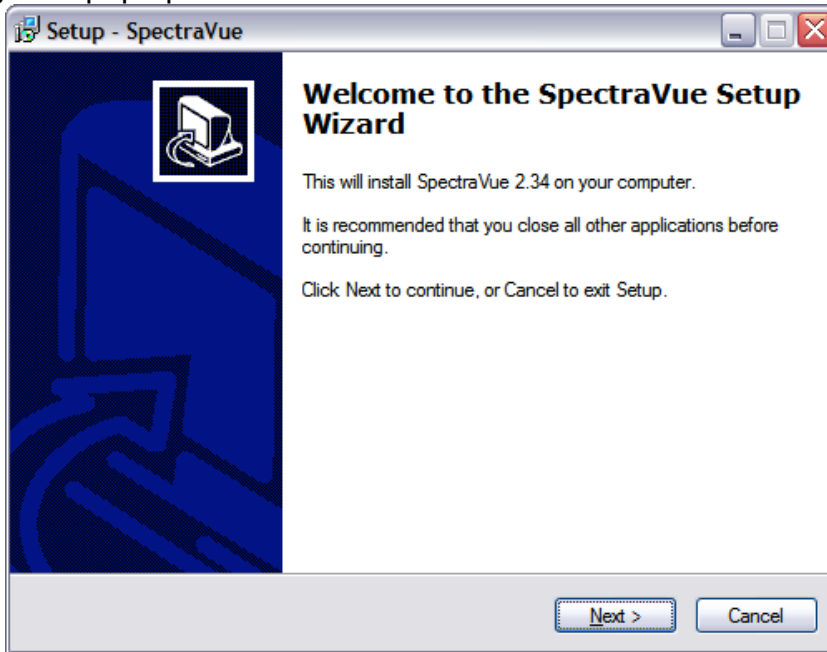

Fig 1: Setup Wizard
1.1 Run SETUP.EXE from the installation CD. The window as in Fig 1 on the next page will pop up.